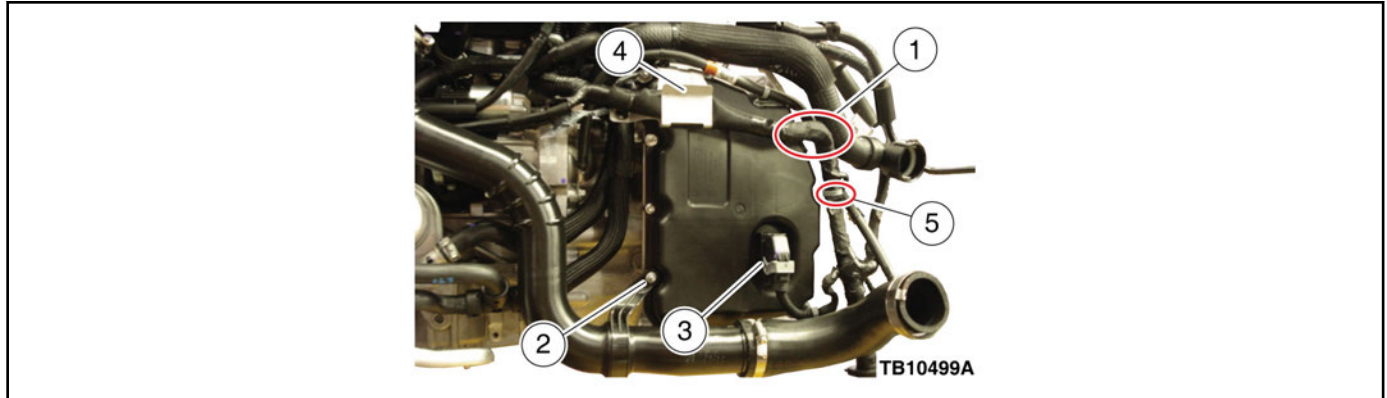
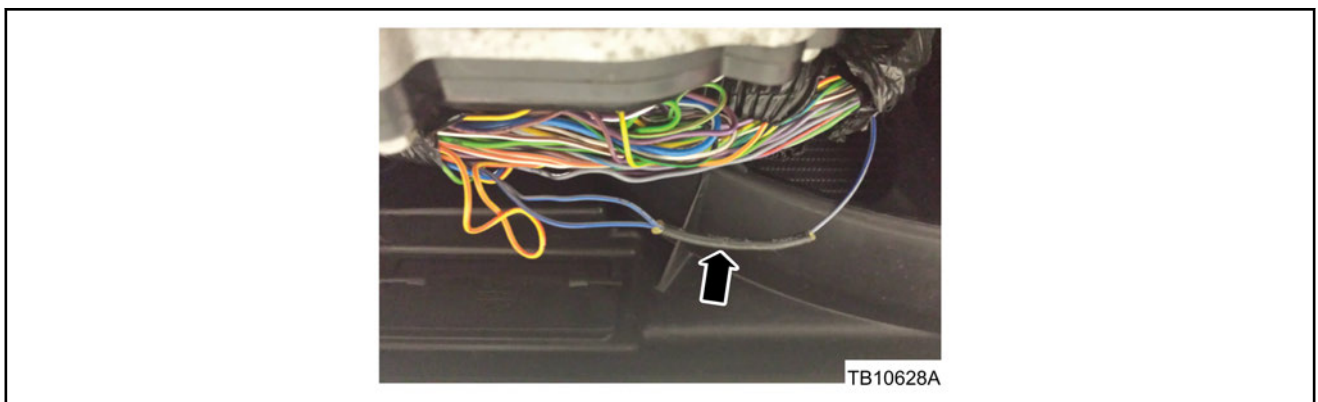

Figure 2 - Article 15-0005
Figure 3 - Article 15-0005
- c. Splice S178 is located under the air box where the 12A581 harness turns downward near the transmission cover. It will have 3 circuits that are gray/blue. (Figure 2 Item 1)
- (1) Raise the vehicle. Refer to Workshop Manual (WSM), Section 100-02.
- (2) Remove the lower splash shield. Refer to WSM, Section 303-01.
- (3) Remove the nut at the transmission oil pan. (Figure 2 Item 2)
- (4) Remove the charge air cooler tube. Refer to WSM, Section 303-12.
- (5) Disconnect the transmission electrical connector. (Figure 2, Item 3)
- (6) Disconnect the white plastic harness bracket. (Figure 2, Item 4)
- (7) Disconnect the harness from the black harness clip. (Figure 2, Item 5)
- (8) Pull down the harness to gain access to S178.
- (9) Remove enough harness wrap to locate and replace the splice. Replace the signal return splice with 0.75 mm (18 AWG) wire using the solder method. (Figure 3)